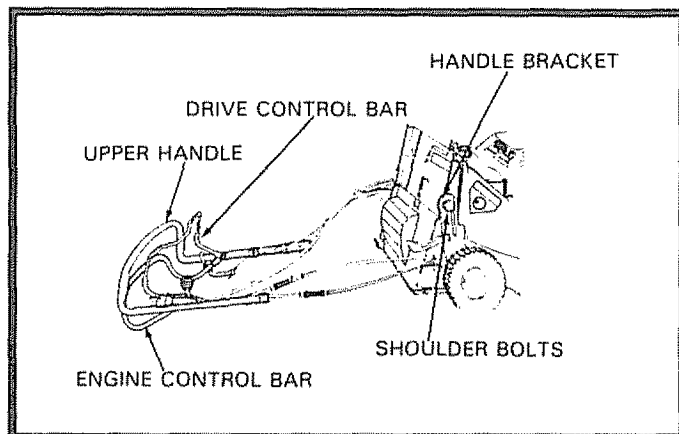

FIG. 1
- Lift up the Upper Handle with the Control Bars and Speed Control and lay out behind the lawn mower (See Fig. 1).